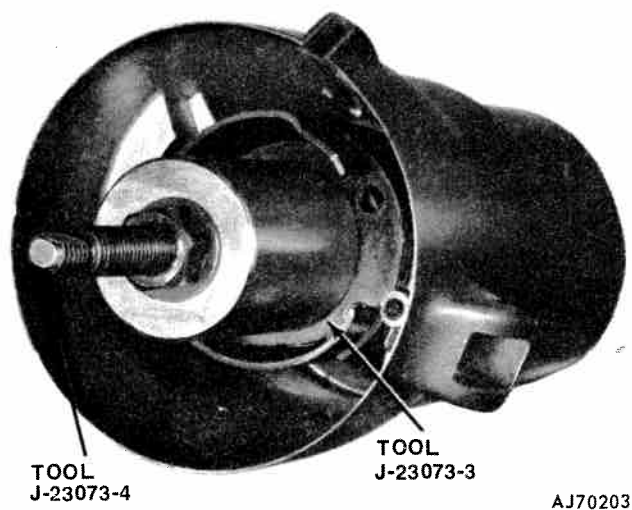
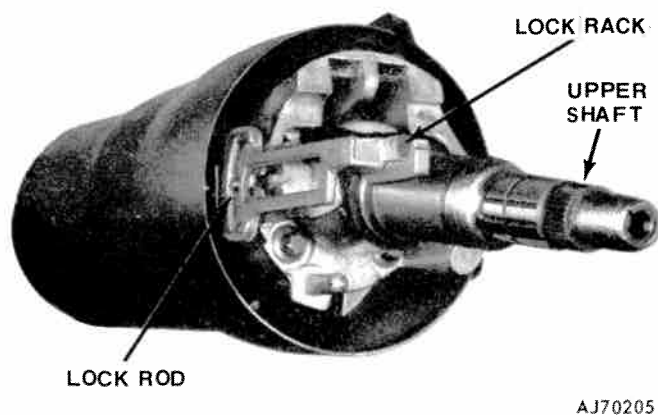
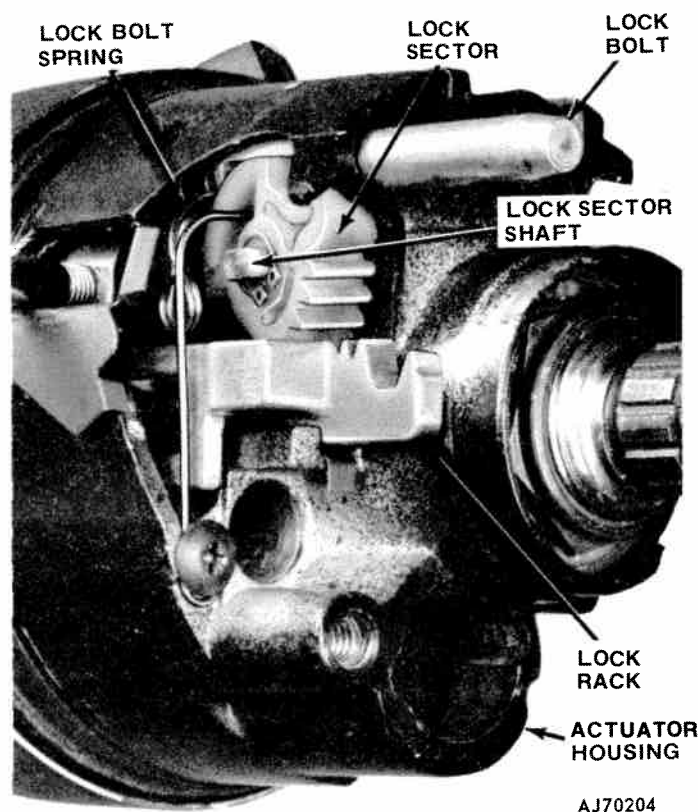

Fig. 11-29 Pulling Shift Tube Into Bowl
Fig. 11-30 Lock Rack and Remote Rod Position
Fig. 11-31 Position of Lock Sector Tension Spring
(6) Place Receiver Tool J-23073-3 and -4 over puller stud and tighten puller nut to pull tube into bowl (fig. 11-29).
(7) Install shift tube thrust washer and shift tube retainer snap ring.
(8) Install lower bearing (with metal face toward retainer), retainer, and snap ring.
(9) Install pin and shift gate on upper support and install upper support aligning V-notch in support with notch in column (located at 9 o'clock position).
(10) Install four retaining screws.
(11) Assemble steering shaft and slide into column.
(12) Place bearings (14 balls each) in upper housing (if removed).
(13) Install tilt handle.
(14) Insert ignition switch remote rod between shift bowl and mast jacket and into guide channel in left side of upper support.
(15) Place lock rack on rod (fig. 11-30).
(16) Carefully guide upper housing over steering shaft and lock rack, aligning lock shoes with teeth in upper support. Lift tilt lever to allow engagement of lock shoes into upper support.
(17) Align upper housing and upper support pivot pin holes and drive pivot pins into position using a fiber mallet or brass drift.
(18) Install lock shoes, lock shoe springs, tilt bumpers, and lockpin in upper housing.
(19) Install lock sector and sector shaft. Large tooth on sector must engage large slot in lock rack. Install sector shaft retaining snap ring.
(20) Hook lock sector tension spring on lockpin, engage sector, and install spring retaining screw (fig. 11-31).
(21) Place upper housing in full up position and install tilt spring and seat. Depress spring retainer approximately 3/16 inch into housing. Rotate retainer approximately 1/8 turn clockwise to secure spring.
(22) Place upper housing cover into position and install three retaining screws.
(23) Install key warning buzzer switch and tension spring. Buzzer switch brass contact should point upwards, toward shift indicator.
(24) Guide shift quadrant light wire up through upper housing and then down between shift bowl and mast jacket.
(25) Install shift quadrant mounting bracket and attach light socket.
(26) Install tilt release handle.
(27) Hook base of shift quadrant over tabs on left side of retainer and place in position.
(28) Install shift pointer into bowl and engage with quadrant.
(29) Install quadrant retainer clip with flat side of clip facing down.